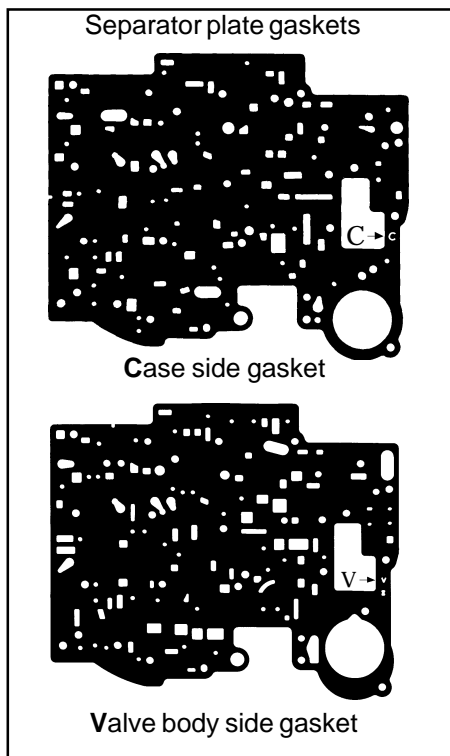

Figure 9
**STEP 12.** Place the new separator plate gaskets on the separator plate (See Fig. 9.) Use a dab of grease or petroleum jelly to help hold the gaskets to the plate. The gasket with the 'C' cut in it goes next to the **case** and the gasket with the 'V' cut in it goes next to the **valve body**. Make sure no holes in the separator plate are **covered** by the gasket.